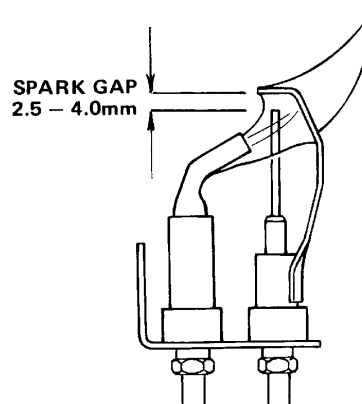

FIG. 30 PILOT BURNER SPARK GAP TOLERANCES
The pilot is pre-set and no adjustment is required. The pilot flame envelope should cover the electrode tip and spark earthing strip see FIG. 30. If the pilot flame is not as illustrated, remove and clean the pilot as described in the Servicing Instructions Section 3, PILOT BURNER, Page 22.
- H. Ensure that the spark gap is as illustrated in FIG.30
6. Replacement is the reverse of removal. On re-assembly ensure that the spark gap is as illustrated in FIG. 30.